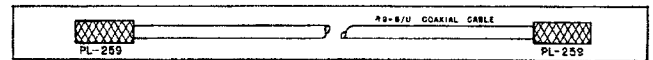

Figure 15. Transmitter-to-Antenna & Transmitter-to-Receiver Cables
(7) TRANSMITTER-TO-ANTENNA CABLE.—This cable is made up of a suitable length of 50-ohm, coaxial cable RG-8/U. Each end of this cable terminates in Plug PL-259. (See fig. 15.) To disassemble this
(8) TRANSMITTER-TO-RECEIVER CABLE.—This cable is assembled in exactly the same manner as the Transmitter-to-Antenna cable described above. The only difference is in the length of cable required. (See fig. 15.) If MCW operation is required, an additional wire is necessary. A No. 20 gauge stranded wire should be run from pin 2 of Plug PL-151-A to pin 15 of Plug J-402. MCW transmission is then provided by pressing the button marked "TONE" on Control Box C-118/ARC-3.